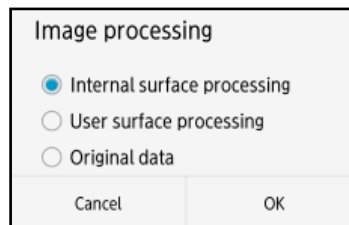

Figure 4-29 Image processing setup screen
- (1) Tap Device setting: **[Image processing]** menu. Then the image processing setup screen (Figure 4-29) appears. The mark ● shows the current setting.
- (2) Tap a desired setting, and confirm the mark ● is moved to the selected setting.
- (3) Tap **[OK]** to return to the parameter setup screen. To cancel the setting change, tap **[Cancel]**, then the screen returns to the parameter setup screen without setting change.
- (4) Tap **[Return to the main window]** to return to the main screen.